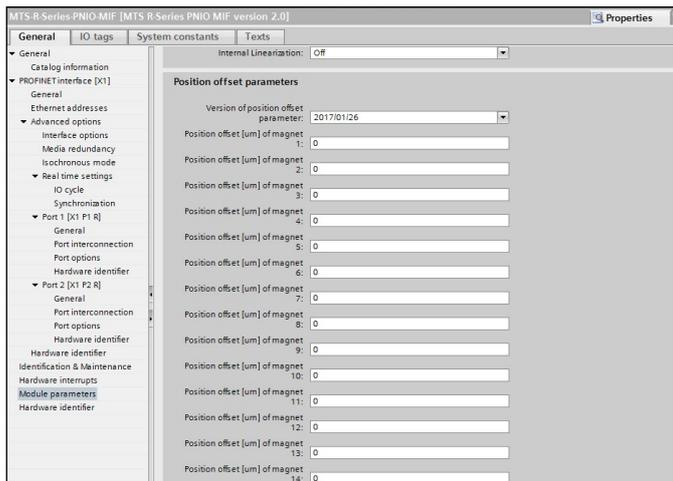

Fig. 114: Setting of the offset
- **Offset:** In the subsection “Position offset parameters” you can set the offset, a shift of the measurement range start, separately for each magnet – independent of further magnets on the sensor rod/sensor profile (Fig. 114). You can set the values with a step size of 1 µm in the range between -214...+214 m.